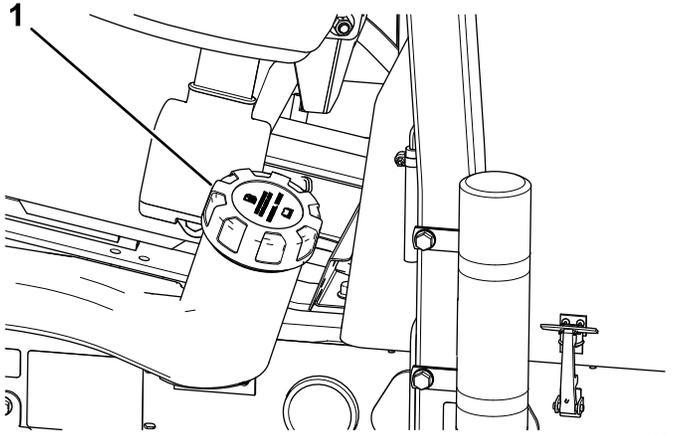

Figure 46
2. Clean the area around the fuel-tank cap (Figure 46).